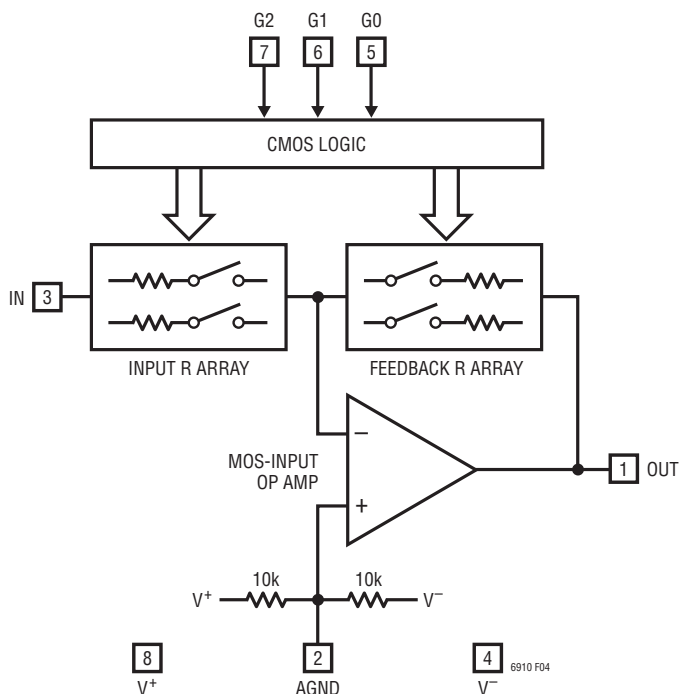
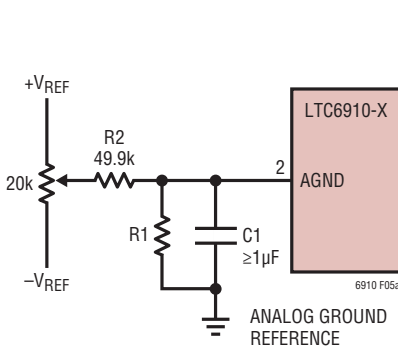

Figure 4. Block Diagram
Figure 5a. Offset Nulling
**AGND (Pin 2):** Analog Ground. The AGND pin is at the midpoint of an internal resistive voltage divider, developing a potential halfway between the  $V^+$  and  $V^-$  pins, with an equivalent series resistance to the pin of nominally 5k $\Omega$  (Figure 4). AGND is also the noninverting input of the internal op amp, which makes it the ground reference voltage for the IN and OUT pins. Because of this, very “clean” grounding is important, including an analog ground plane surrounding the package.
**IN (Pin 3):** Analog Input. The input signal to the amplifier in the LTC6910-X is the voltage difference between the IN and AGND pins. The IN pin connects internally to a digitally controlled resistance whose other end is a current summing point at the same potential as the AGND pin (Figure 4). At unity gain (digital input 001), the value of this input resistance is approximately 10k $\Omega$  and the IN voltage range is rail-to-rail ( $V^+$  to  $V^-$ ). At gain settings above unity (digital input 010 or higher), the input resistance falls. Also, the linear input voltage range falls in inverse proportion to gain. (The higher gains are designed to boost lower level signals with good noise performance.) Tables 1, 2, and 3 summarize this behavior. In the “zero” gain state (digital input 000), analog switches disconnect the IN pin internally and this pin presents a very high
The LTC6910 family are small outline, wideband inverting DC amplifiers whose voltage gain is digitally programmable. Each delivers a choice of eight voltage gains, controlled by the 3-bit digital inputs to the G pins, which accept CMOS logic levels. The gain code is always monotonic; an increase in the 3-bit binary number (G2 G1 G0) causes an increase in the gain. Table 1, Table 2 and Table 3 list the nominal voltage gains for LTC6910-1, LTC6910-2 and LTC6910-3 respectively. Gain control within each amplifier occurs by switching resistors from a matched array in or out of a closed-loop op amp circuit using MOS analog switches (Figure 4). Bandwidth depends on gain setting. Curves in the Typical Performance Characteristics section show measured frequency responses.
Settling time in the CMOS gain-control logic is typically several nanoseconds and faster than the analog signal path. When amplifier gain changes, the limiting timing is analog, not digital, because the effects of digital input changes are observed only through the analog output (Figure 4). The LTC6910-X’s logic is static (not latched) and therefore lacks bus timing requirements. However, as with any programmable-gain amplifier, each gain change causes an output transient as the amplifier’s output
The electrical tables list DC offset (error) voltage at the inputs of the internal op-amp in Figure 4,  $V_{OS(OA)}$ , which is the source of DC offsets in the LTC6910-X. The tables also show the resulting, gain dependent offset voltage referred to the IN pin,  $V_{OS(IN)}$ . These two measures are related through the feedback/input resistor ratio, which equals the nominal gain-magnitude setting, G:
Offset voltages at any gain setting can be inferred from this relationship. For example, an internal offset  $V_{OS(OA)}$  of 1mV will appear referred to the IN pin as 2mV at a gain setting G of 1, or 1.5mV at a gain setting of 2. At high gains,  $V_{OS(IN)}$  approaches  $V_{OS(OA)}$ . (Offset voltage can be of either polarity; it is a statistical parameter centered on zero.) The MOS input circuitry of the internal op amp in Figure 4 draws negligible input currents (unlike some op amps), so only  $V_{OS(OA)}$  and G affect the overall amplifier’s offset.
Because internal op amp offset voltage  $V_{OS(OA)}$  is gain independent as noted above, offset trimming can be readily added at the AGND pin, which drives the noninverting input of the internal op amp. Such a trim shifts the AGND voltage slightly from the system's analog ground reference, where AGND would otherwise connect directly. This is convenient when a low resistance analog ground potential or analog ground reference exists, for the return of a voltage divider as in Figure 5a. When adjusted for zero DC output voltage when the LTC6910-X has zero DC input voltage, this DC nulling will hold at other gain settings also.
Figure 5a shows the basic arrangement for dual-supply applications. A voltage divider (R1 and R2) scales external reference voltages  $+V_{REF}$  and  $-V_{REF}$  to a range equaling or slightly exceeding the approximately  $\pm 10\text{mV}$  op amp offset-voltage range. Resistor R1 is chosen to drop the  $\pm 10\text{mV}$  maximum trim voltage when the potentiometer is set to either end. Thus if  $V_{REF}$  is 5V, R1 should be about  $100\Omega$ . Note also that the two internal 10k resistors in Figure 4 tend to bias AGND toward the mid-point of  $V^+$  and  $V^-$ . The external voltage divider will swamp this effect if R1 is much less than  $5\text{k}\Omega$ . When considering the effect of the internal 10k resistors, note that they form a Thévenin equivalent of  $5\text{k}$  in series with an open-circuit voltage at the halfway potential  $(V^+ + V^-)/2$ . (Although
With this trim technique in place, the remaining DC offset sources are drifts with temperature (typically  $6\mu\text{V}/^\circ\text{C}$  referred to  $V_{OS(OA)}$ ), shifts in the LTC6910-X's supply voltage divided by the PSRR factors, supply voltage shifts coupling through the two 10k internal resistors of Figure 4, and of course any shifts in the reference voltages that supply  $+V_{REF}$  and  $-V_{REF}$  in Figure 5a.
At a gain setting of 10V/V in an LTC6910-1 (digital input 100) and a 250ksps sampling rate in the LTC1864, a 10kHz input signal at 60% of full scale shows a THD of -87dB at the digital output of the ADC. 100kHz input signals under the same conditions produce THD values around -75dB. Noise effects (both random and quantization) in the ADC are divided by the gain of the amplifier when referred to  $V_{IN}$  in Figure 4. Because of this, the circuit can acquire a signal that is 40dB down from full scale of 5VP-P with an SNR of over 70dB. Such performance from an ADC alone (70 + 40 = 110dB of useful dynamic range at 250ksps), if available, would be far more expensive.